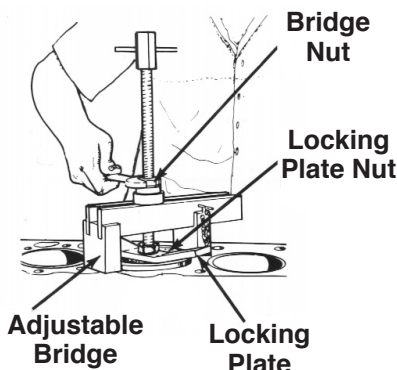

Figure 1
4. Install the adjustable bridge (Item 2) as shown in Figure 1. Tighten the bridge nut against the bridge as shown until the cylinder sleeve liner breaks loose. Continue tightening the nut to remove the sleeve from the engine block.
- 4c. If the cylinder sleeve liner will not break loose from the block, install the adjustable bridge (Item 2) as shown in Figure 1. Tighten the bridge nut against the bridge as shown until the cylinder sleeve liner breaks loose and protrudes above the block at least 1/2 in. Attach the slide hammer and complete the pulling job.